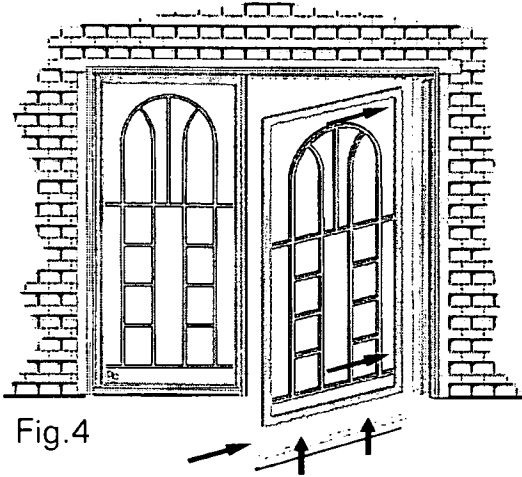

Fig. 4
4) **Doors:** fit into the hinge channels (Screen to inside on all Suntech Doors) (fig.4) position doors to give a 1/8" - 3/16" reveal along header and a 1 1/4" space between doors. Screw a #8 x 1/2" screw near the top and bottom of the hinge channels. Recheck the reveal (it may be necessary to adjust z-bar, header or door if the door frame of the house is out-of-square.)